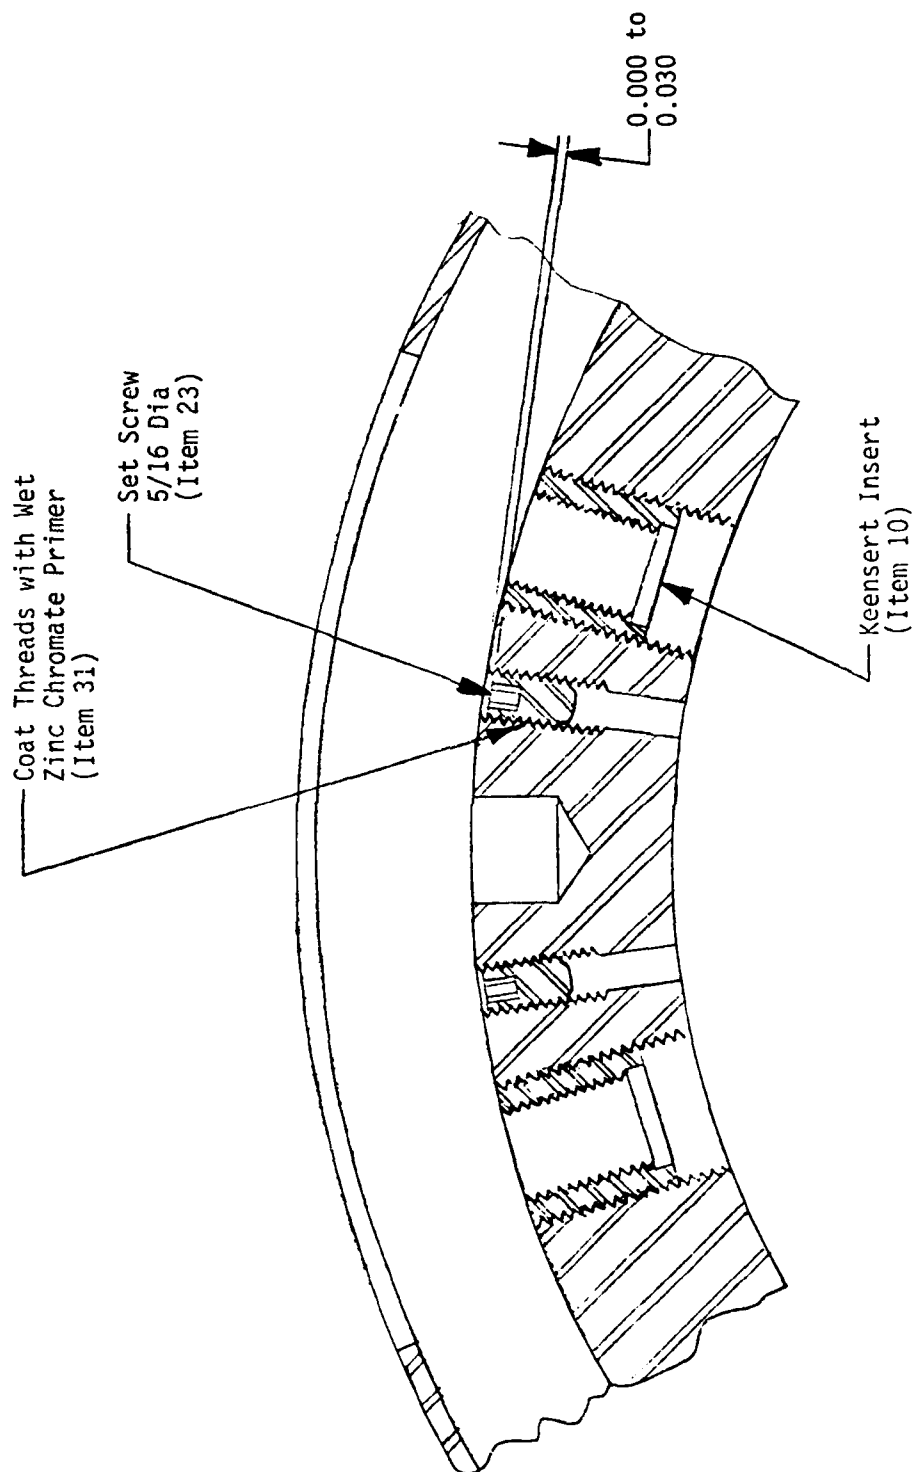

Figure 8. Keensert installation: Wing station after completion of Keensert installation.
39. Coat the threads of two 5/16-inch set screws (Item 23) with zinc chromate primer (Item 31) and insert them into the two holes drilled and tapped earlier. The ends of the set screws should be flush to 0.030 inch below flush with the center ring surface (see Figure 8).